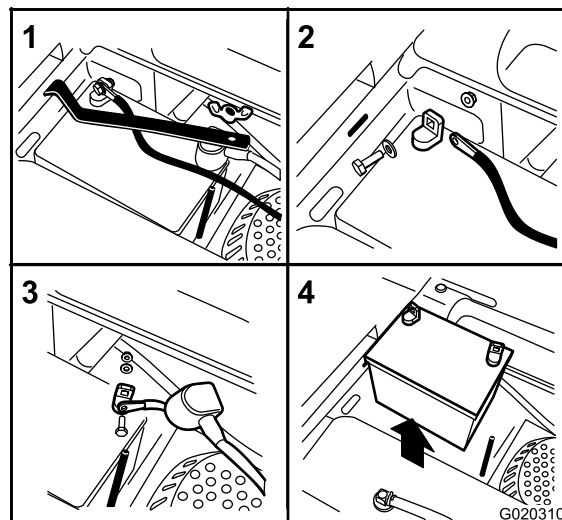

Figure 41
3. Remove the wing nut securing the battery clamp (Figure 41).
4. Remove the clamp (Figure 41).
5. First disconnect the negative battery cable (black) from the negative (-)(black) battery terminal (Figure 41).
6. Slide the red terminal boot off the positive (red) battery terminal and remove the positive (+)(red) battery cable (Figure 41).
1. Position the battery in the tray with the terminal posts opposite from the fuel tank (Figure 41).
4. Secure the cables with 2 bolts, 2 washers, and 2 locknuts (Figure 41).
6. Install the clamp and secure it with the wing nut (Figure 41).